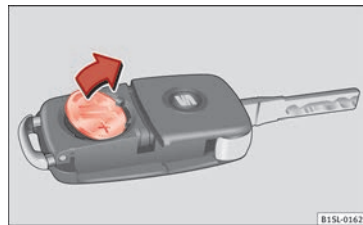

Fig. 100 Vehicle key: removing the battery »
- Extract the battery from the compartment using a suitable thin object »» Fig. 100.
- Place the new battery in the compartment, pressing in the direction of the arrow as shown »» Fig. 100 »» ❷.